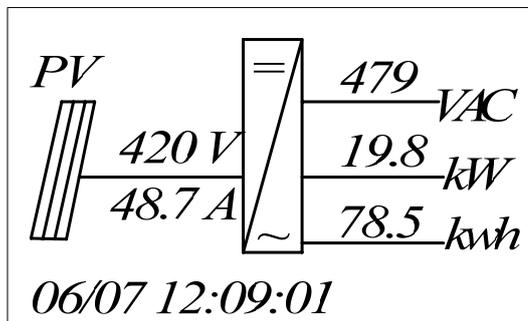

Figure 5-8 Grid connection and power generation default interface
(3) Normal operation mode, as shown in Figure 5-8: